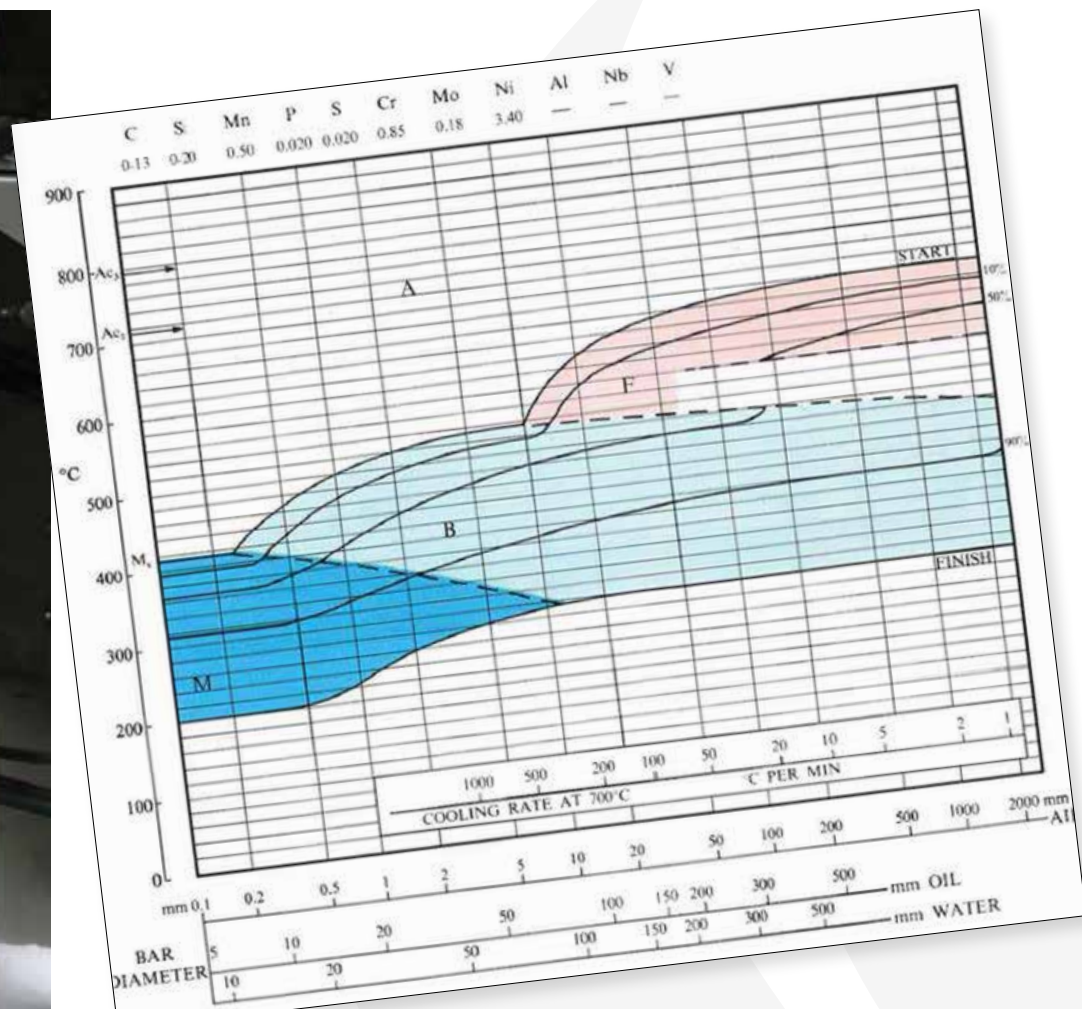

Figure 1
- Most high-strength-alloy aerospace materials (Figure 1) by specification are required to transform as much RA as possible to avoid any post process microstructural changes that might occur during a component's operation. Due to the alloy content, the M_f point is generally below ambient.
9310 (Figure 1) is a classic aerospace steel where the carburized case in addition to 3.00 to 3.50 percent nickel and 1.00 to 1.40 percent chromium plus other elements depresses the M_f near or below ambient; however, Figure 1 represents the core material, not the carburized case.